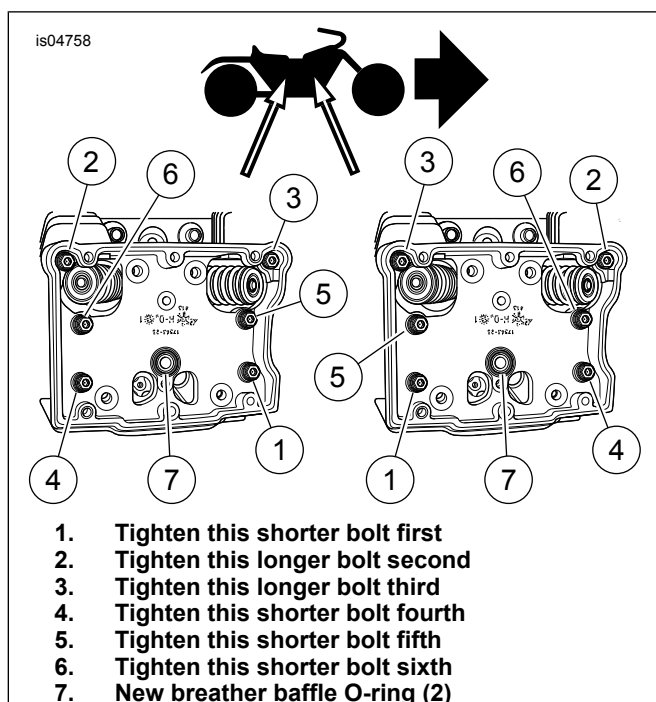

Figure 8. Rocker HOUSING Bolt Lengths and Tightening Sequence
3. Apply a small dab of Loctite® 243 (blue) to the threads of the six rocker housing bolts removed in Step 14. See Figure 8. **Start**, but do not fully tighten the two 1-3/4 inch (44 mm) long bolts on the left side of the engine. **Start**, but do not fully tighten the four 1-1/4 inch (32 mm) long bolts in the center and right side of the engine.
4. Alternately tighten the bolts to 13.6–18.9 N·m (120–168 in-lbs), in the sequence indicated by the circled numbers **for the front or rear cylinder** in Figure 8.